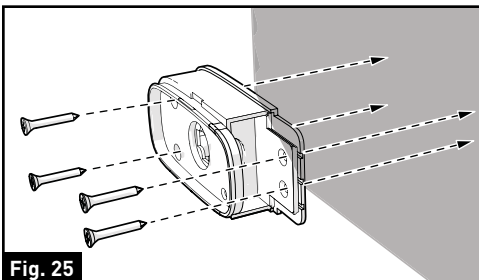

Fig. 25
5. Secure the traffic light base on the vehicle wall using the four flat self-tapping screws. (Fig. 25)